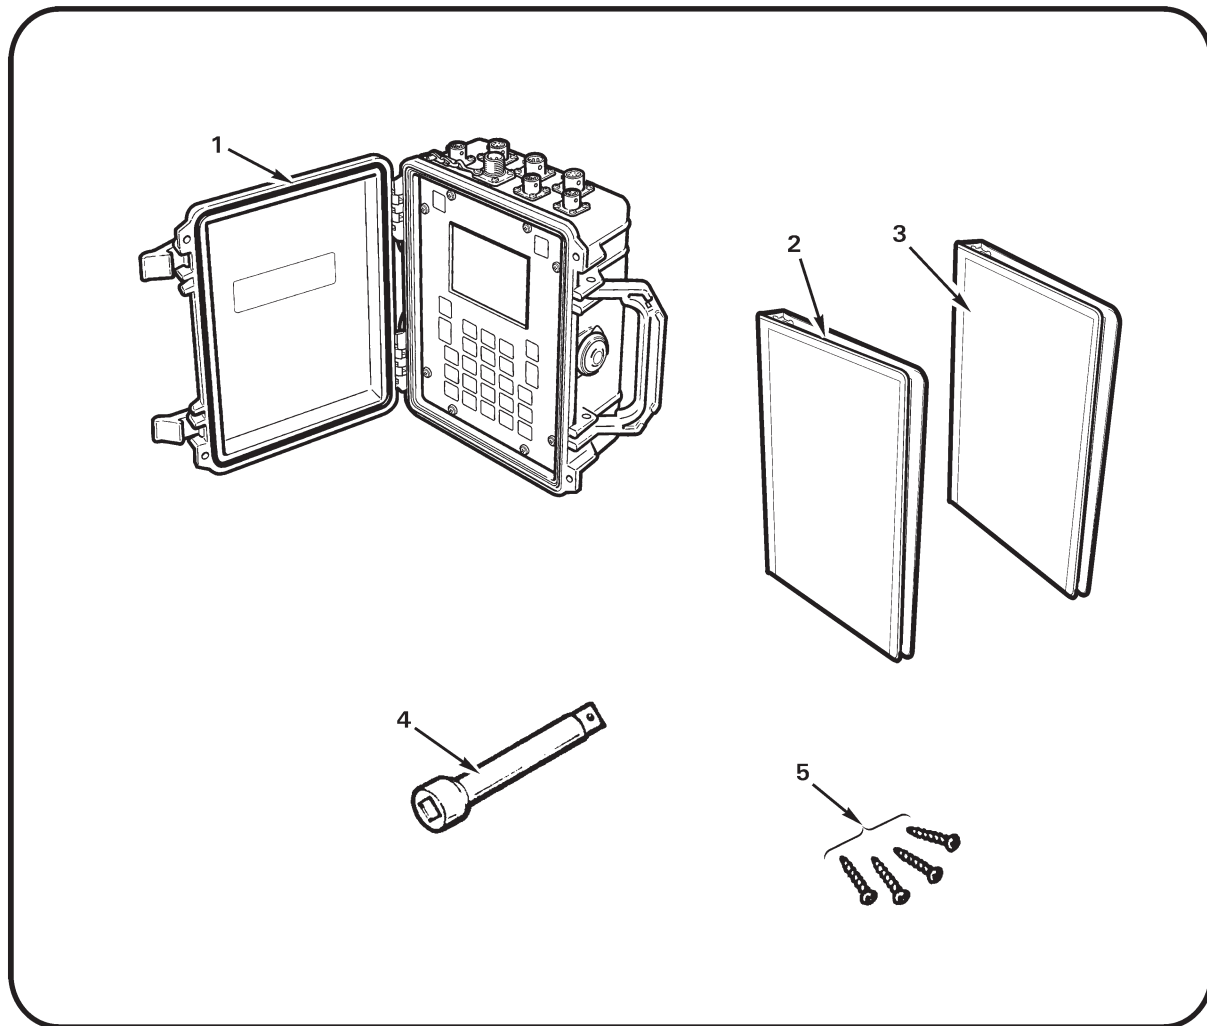

FIGURE 36-9 SPECIAL TOOLS
| 1 | MT295-1 | Tail Rotor Gearbox Output Shaft Seal Replacement Tools (includes items 2, 3, 4, and Figure 36-9 item 5) |
Refer to Figure 36-9.